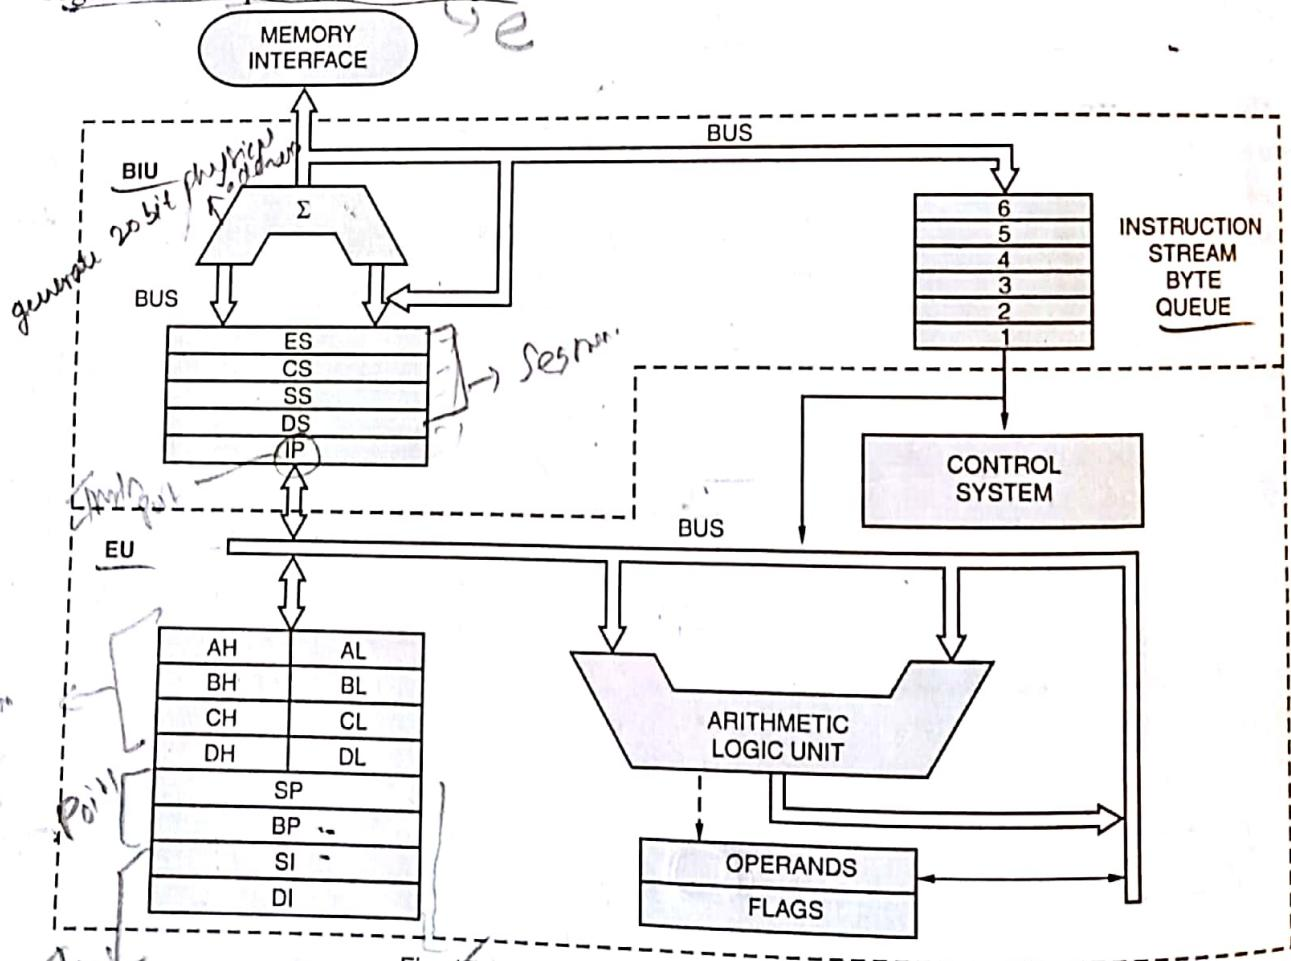

Fig. 17.1. Internal block diagram of 8086/8088.
The complete architecture of 8086 as shown in Fig. 17.1 can be divided into two parts : (a) Bus interface unit (BIU) and (b) Execution unit (EU).
Internal Block diagram of 8086 CPU is shown in Fig. 17.1.